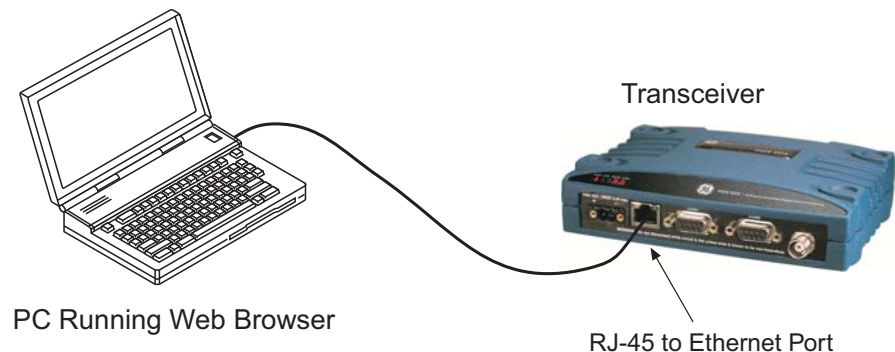

Figure 21. PC Connection to Radio for Web Management
- An Ethernet cable connected between the PC and the radio as shown in Figure 21. (Alternatively, a network connection may be used, as long as the radio can be reached via its IP address.)